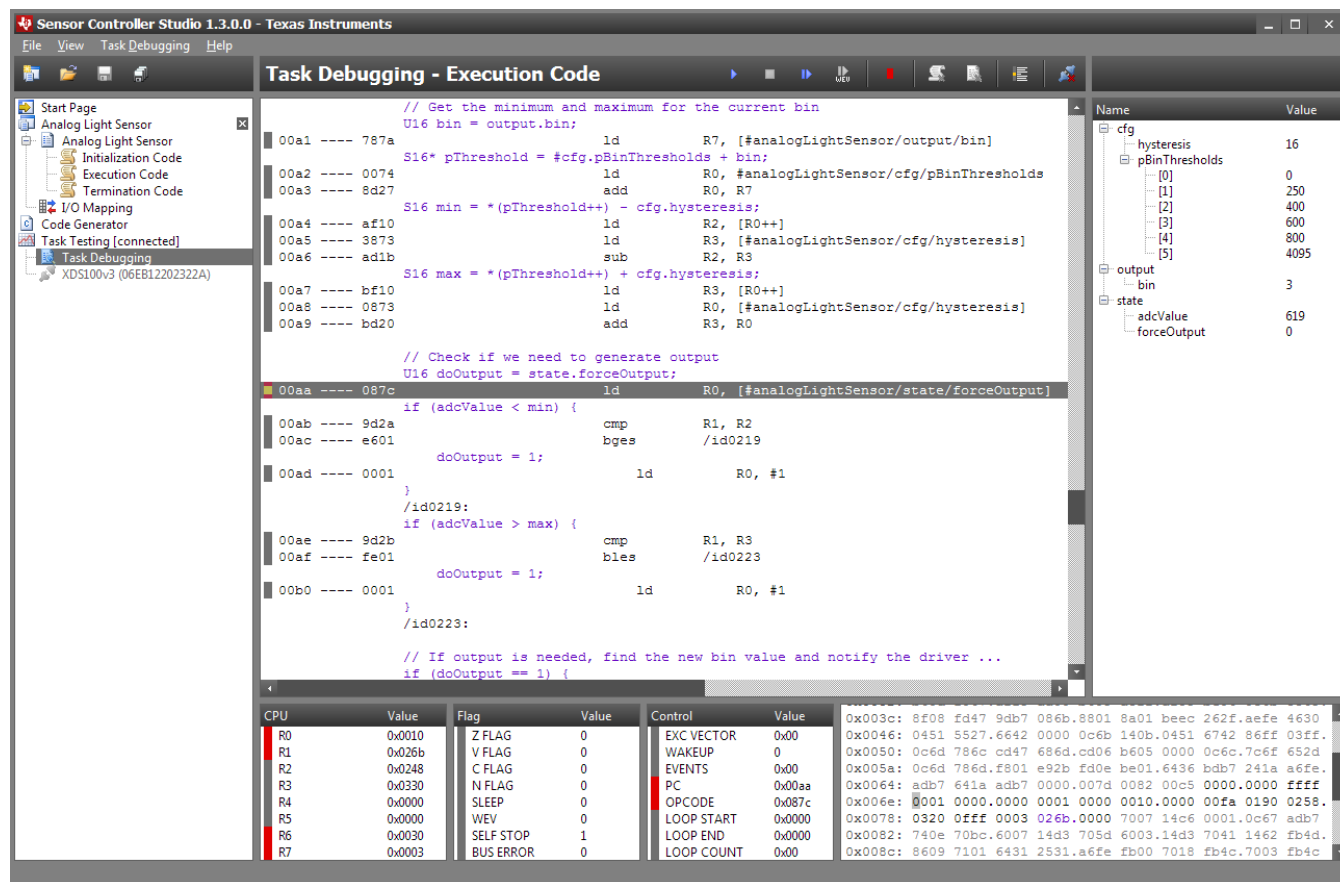

Figure 12. Task Debugging
- Setup a breakpoint in the task code by selecting the line and pressing **F9**, as shown in Figure 12, and **Run** to it.